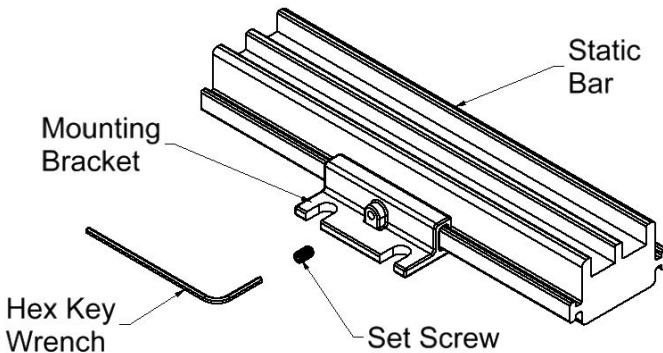

Figure 3: IQ Easy LP Static Bar Mounting
4. Attach static neutralizing bar using fasteners supplied. See Figures 3 and 4.